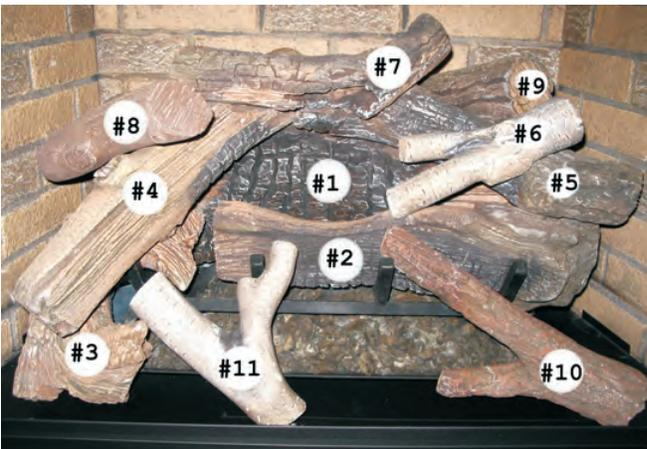

Figure 3
A periodic visual check of the flames should be made. The pilot flame should always be present when the appliance is in operation. See Figures 3 and 4.
- * Height is from hearth to top of chimney and the minimum height is 10 feet. (See Figure 3, Factory Built Fireplace.)
- * Height is from hearth to top of chimney and the minimum height is 6 feet. (See Figure 3, Factory Built Fireplace.)